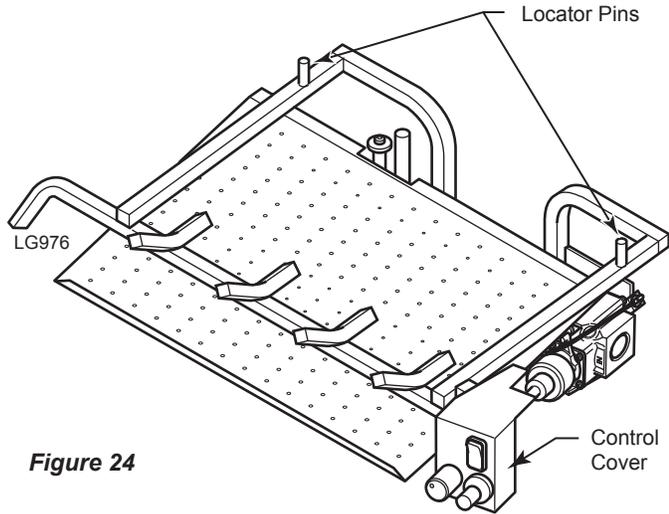

Figure 24
1. Align pins on bottom of rear log #1 with pins on grate bar and place on grate. *Figures 24 and 25*